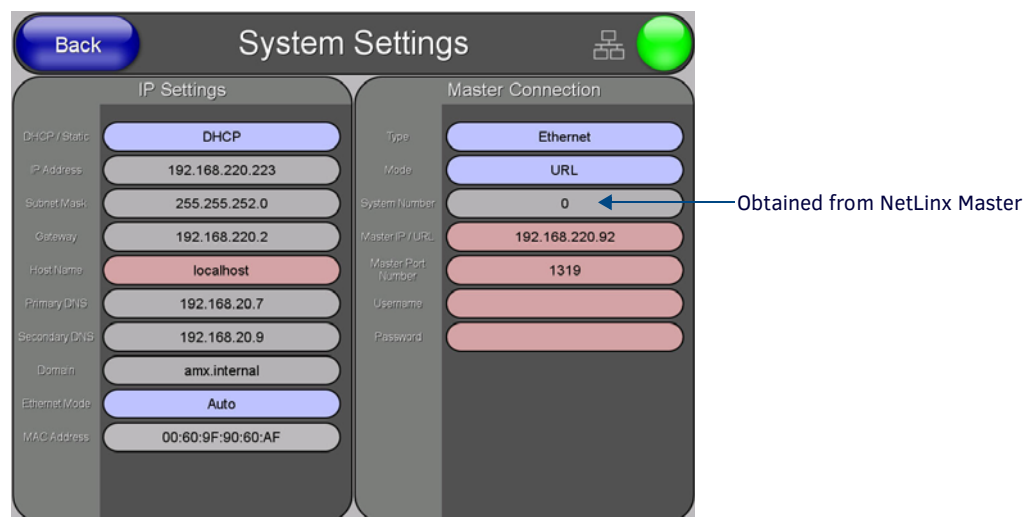

FIG. 81 System Settings page
7. Select **Protected Setup > System Settings** (located on the lower-left) to open the *System Settings* page (FIG. 81).